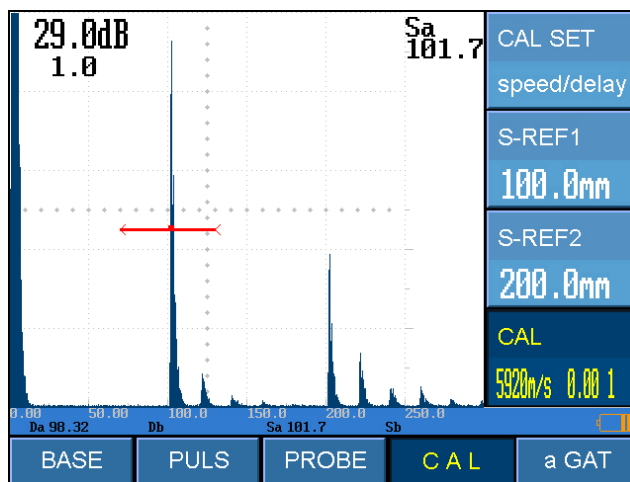

Figure 6-2 Move Gate A to Capture the First Bottom Echo
- (3) Enter the CAL menu, select: CAL SET: speed/delay; S-REF 1: 100.0mm; S-REF 2: 200.0mm.
- (4) Move Gate A to capture the first bottom echo (refer to Figure 6-2). Enter the CAL submenu, and press [+] key to confirm echo 1, then "0" is turned to "1" in CAL submenu.